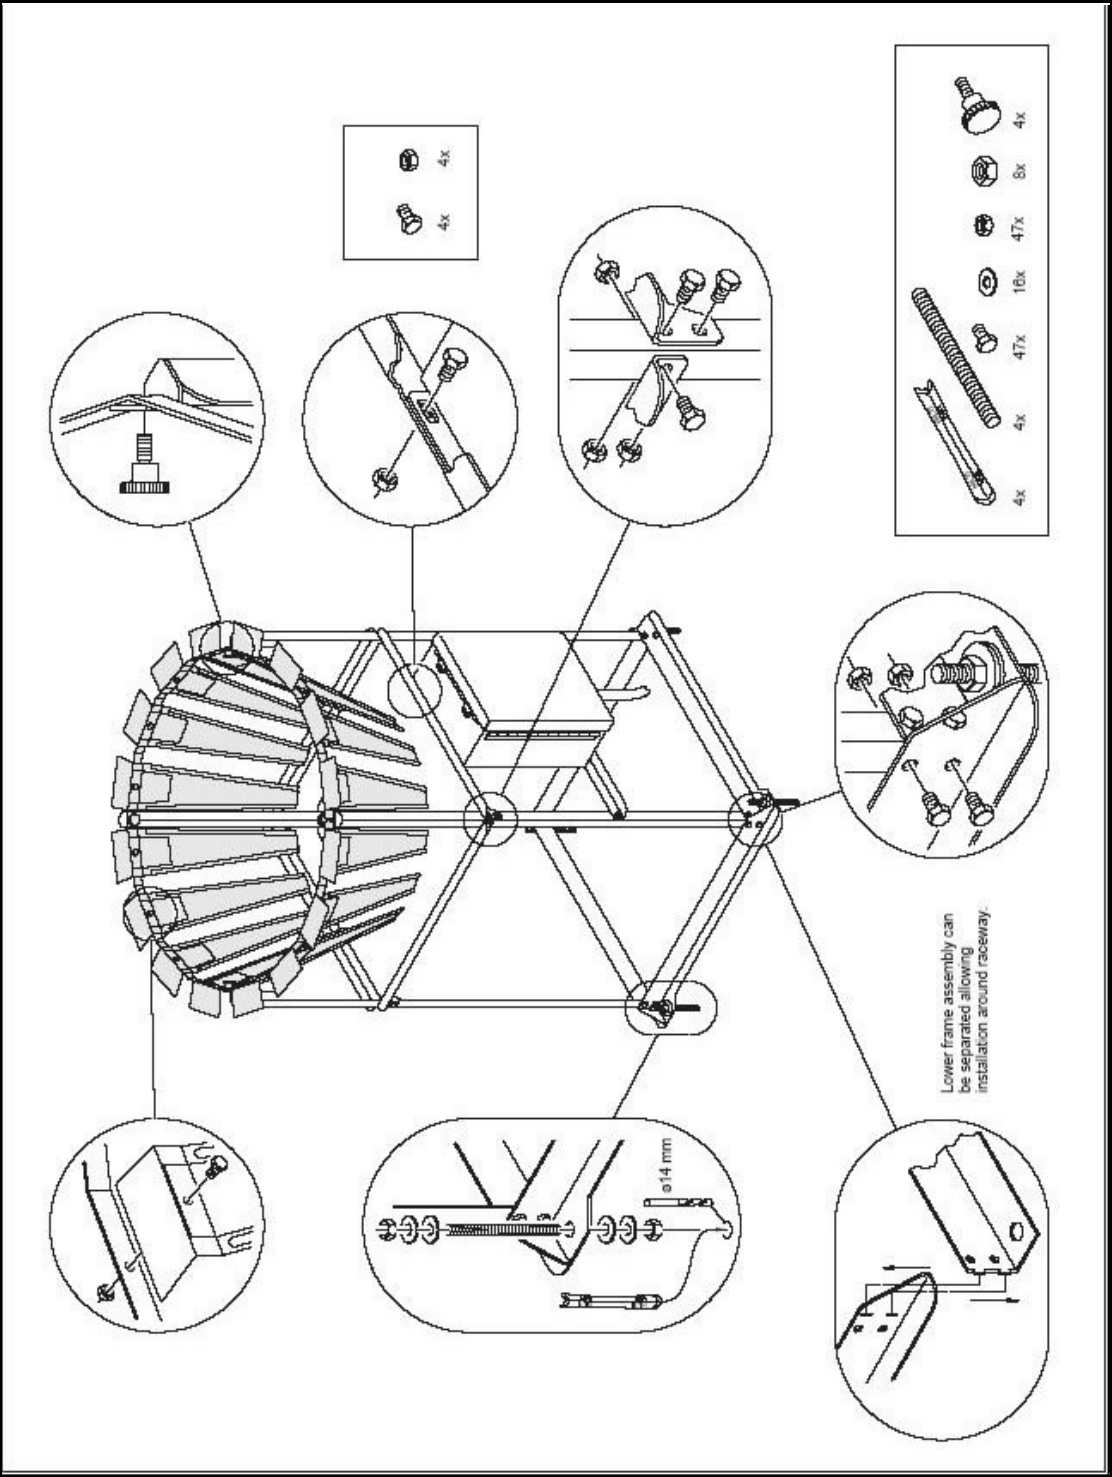

Figure 7
59. Assemble the upright members to the base sections using the hardware provided with the kit (see **Figure 7**).